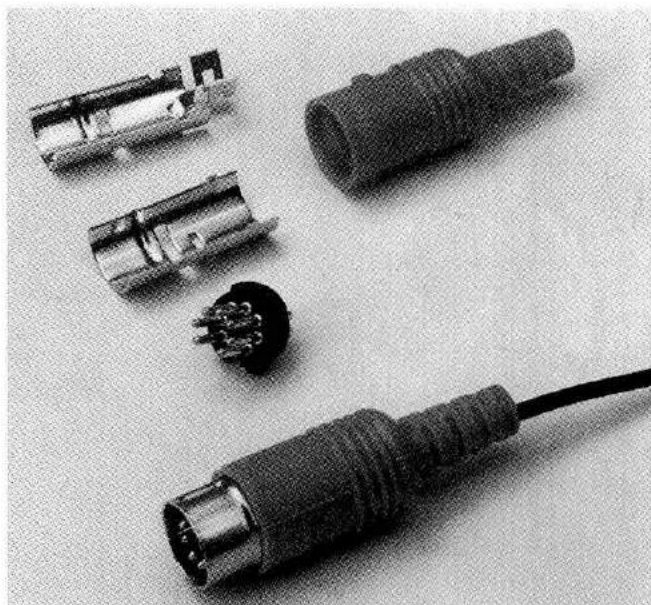

Fig 2-15—The ubiquitous DIN connector.
**A** DIN is an acronym for Deutsches Institut für Normung, the standards-setting organization for Germany. A DIN connector (see Fig 2-15) is a connector that conforms to one of the many standards defined by DIN. There are many types of DIN connectors in addition to the familiar multi-pin circular types.